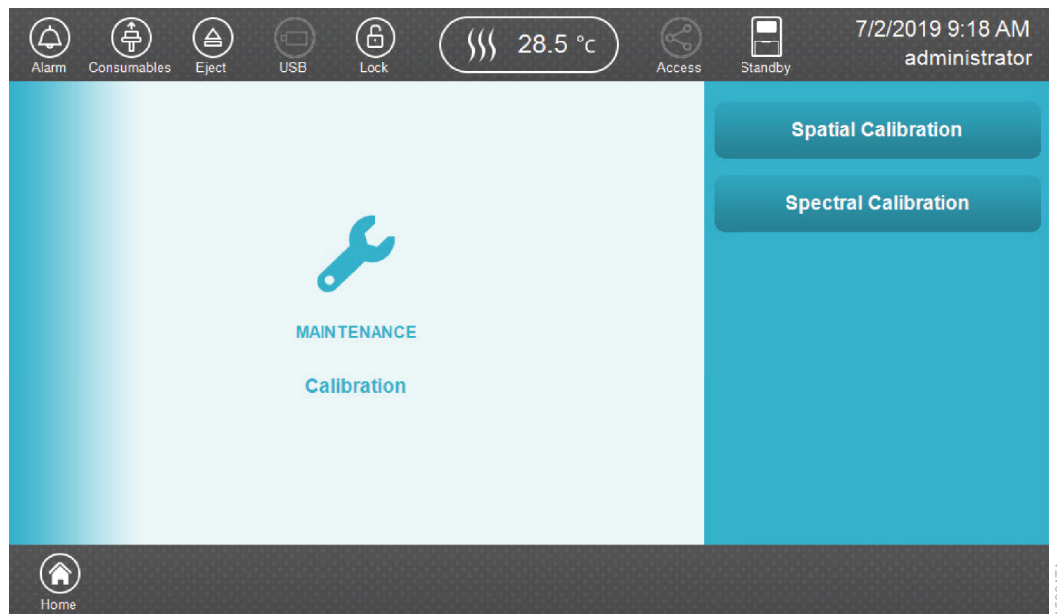

Figure 19. 'Maintenance Calibration' screen.
3. Select **Calibration** on the maintenance portion of the 'Main Menu' screen (Figure 17) then select **Spectral Calibration** on the 'Maintenance Calibration' screen (Figure 19).